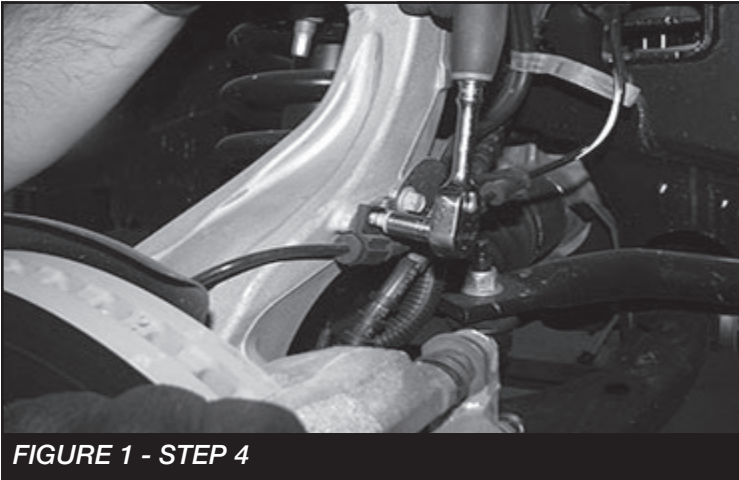

FIGURE 1 - STEP 4
4. Working from the driver side of the vehicle disconnect the brake line and ABS line from the factory knuckle. **SEE FIGURE 1**